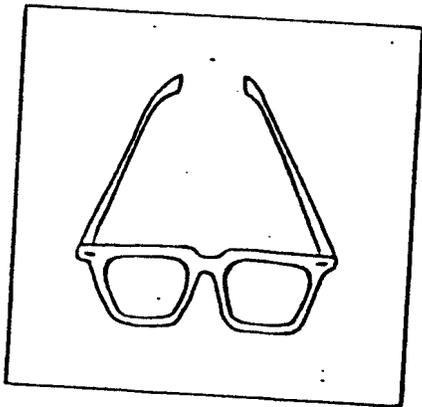

Figure 1
3. Frame Sizing - While facing the employee, check that the temples project straight back from the frames over the ears. This indicates the frame size is proper. The temples should not "toe-in" toward the ears or "bow-out" from pressing against the head (see Figures 1 & 2). "Toe-in" indicates a need for smaller frames. "Bow-out" indicates a need for larger frames. Change to the smaller or larger frames as needed until the proper frame size is selected.